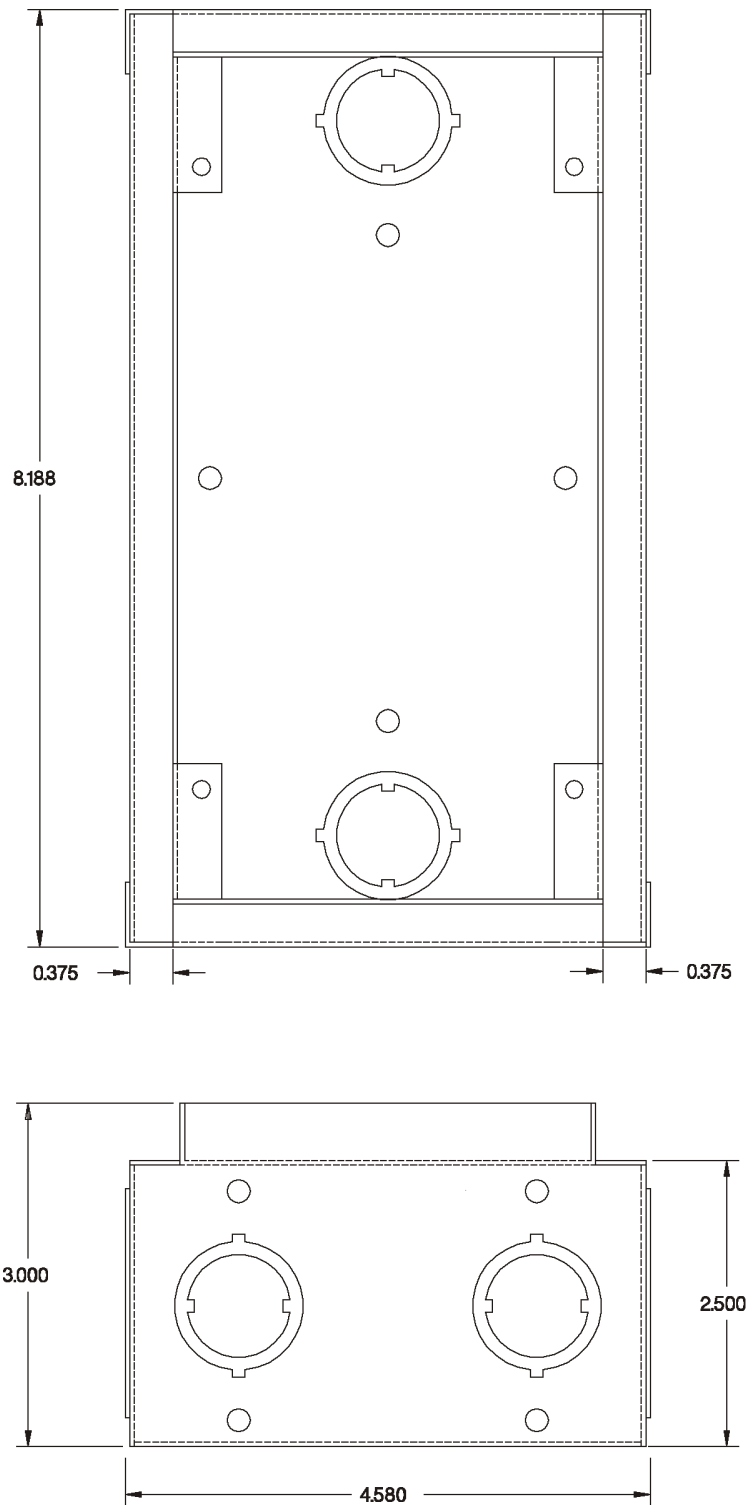

Figure 8 - 500FBB Flush Mount Back Box with Cover
- Model 500FBB . . . . . See figure 8
*Phone: (502) 267-7436 • Fax: (502) 267-9070 • Internet: <http://www.iedaudio.com>*